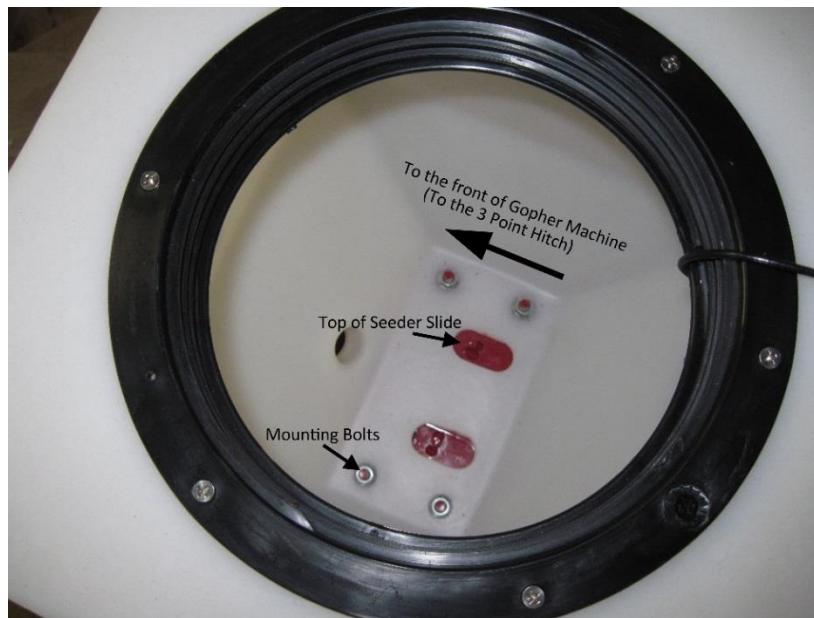

Figure 5: Inside of Plastic Bait Box
- c) After that, place the bait box on top of seeder slides. The bait box should face with the clear viewing windows facing toward the front of the machine as shown in Figure 5 and be secured with the four hex nuts.